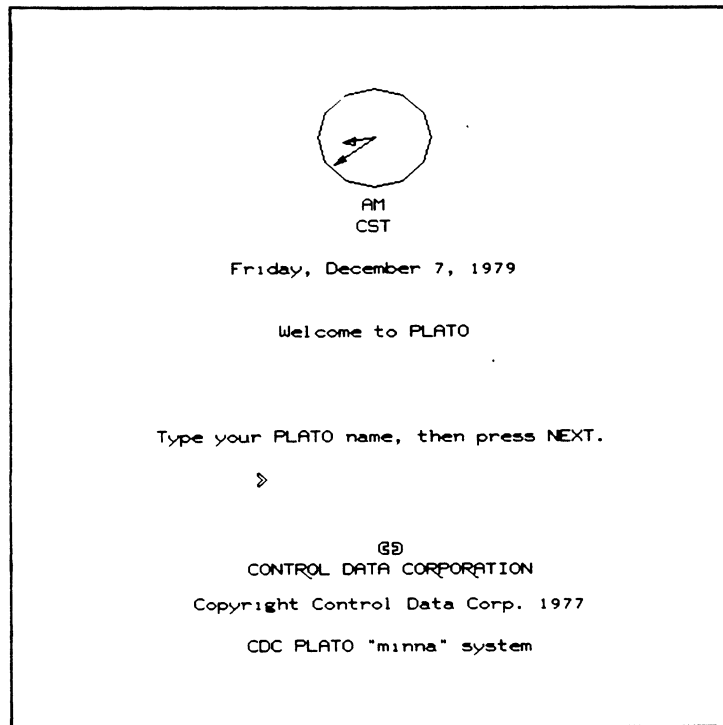

Figure B-1. Welcome to PLATO
5. Press the NEXT key on the PLATO keyboard. This causes the "Welcome to PLATO" page to be displayed (figure B-1).